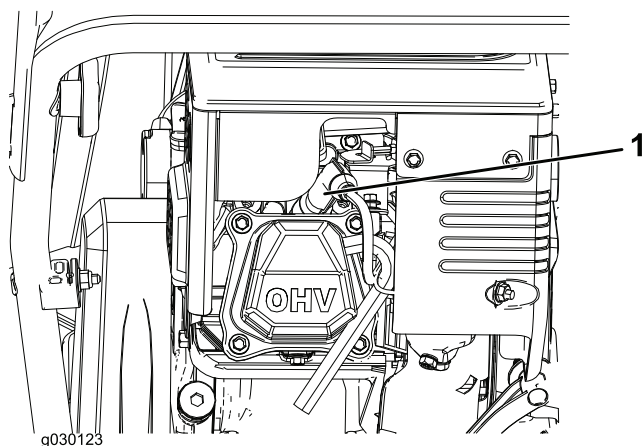

Figure 19
1. Remove the boot (Figure 19).